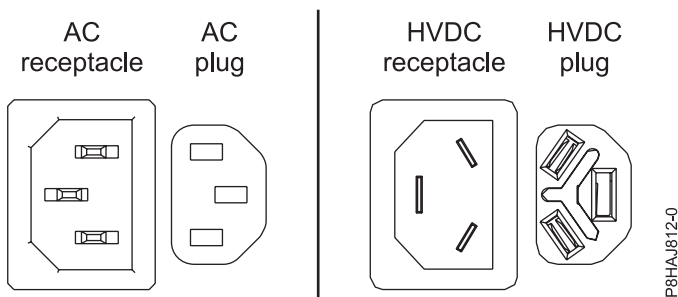
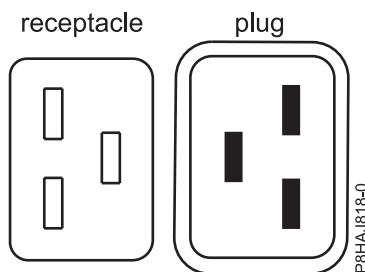

Figure 52. AC and HVDC connectors
Figure 53. Connectors for the 8408-44E system
- The power cord is fastened to the system using the hook-and-loop fastener (A). If you are placing the system in a service position after disconnecting the power cords, then ensure that you unstrap the fastener.
Figure 52 shows the supported alternate current (AC) and high voltage direct current (HVDC) connectors. Figure 53 and Figure 54 show the supported connectors and power distribution unit (PDU) for 8408-44E.